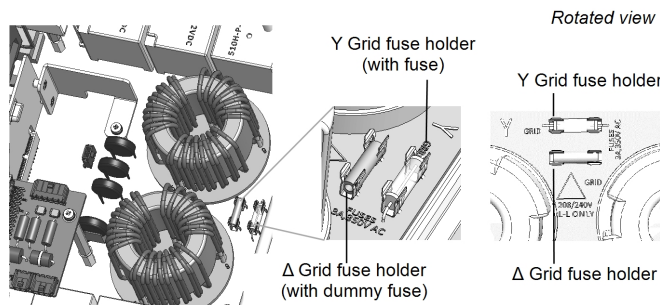

Figure 2: Fuse locations and markings
To set the inverter for 3-wire grid connection, you must move the fuse from the 4-wire fuse holder, marked as Y GRID, to the 3-wire fuse holder, marked as Δ GRID (see *Figure 2*).
- Identify the fuse locations and the markings as described in *Figure 2*.